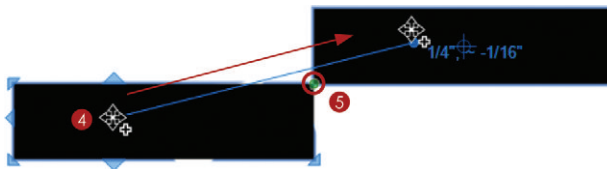

Figure 13.20 Copy the rectangle.
4. While holding down the Ctrl key (Option on Mac), click and drag on the rectangle to make a copy (Figure 13.20).